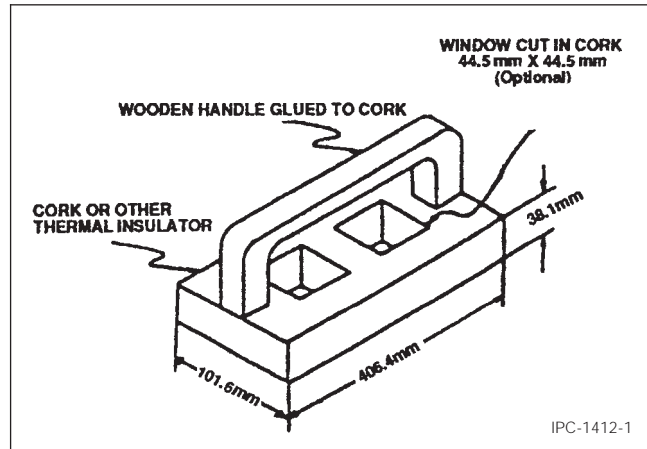

Figure 1 Solder float test fixture
4.4 Solder float test fixture as per Figure 1.
a thumb tack or other low mass holding device (Figure 1) prior to floating the sample. Float the specimen, foil side down, on the surface of the molten solder, maintained at the temperature specified in Table 1, for 10 seconds.